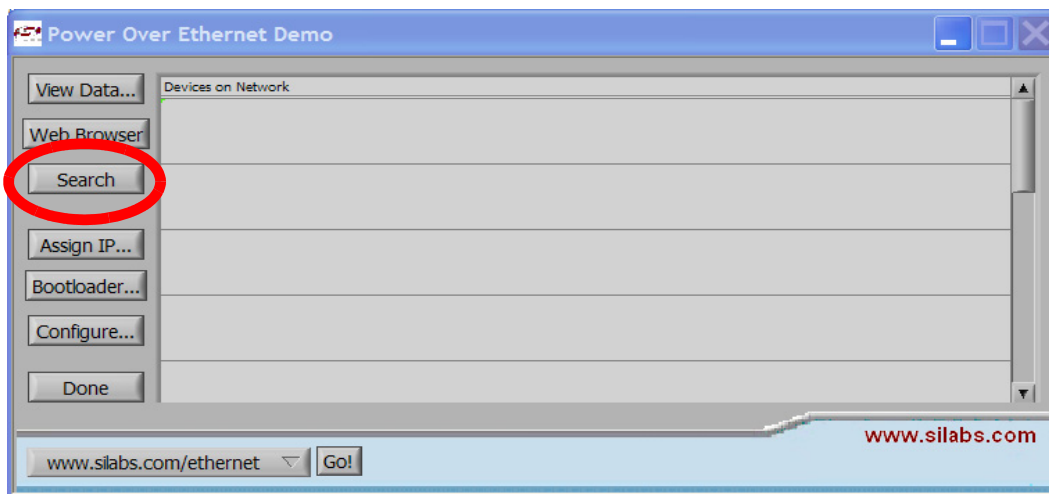

Figure 3. Search Button
1. Start the "Power Over Ethernet Voice Demo" application and press the **Search** button as shown in Figure 3.